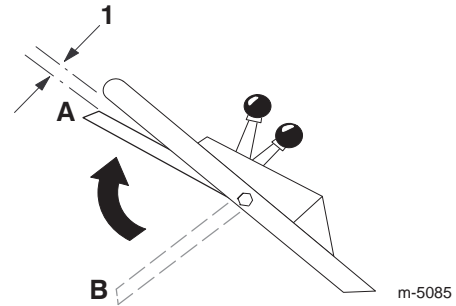

Figure 12
9. Slide the control bar to the right and lift it up to about 1 inch (2.5 cm) below the handle; refer to position **A** in Figure 12.